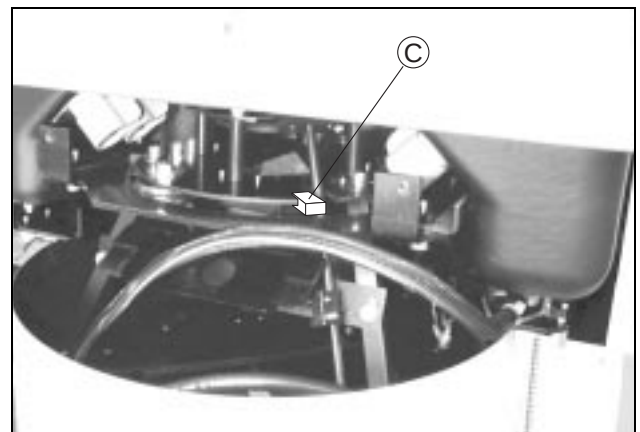

*Fig. 7 Mounting a safety stop*
- Mount the second safety stop as shown in *Fig. 7*.